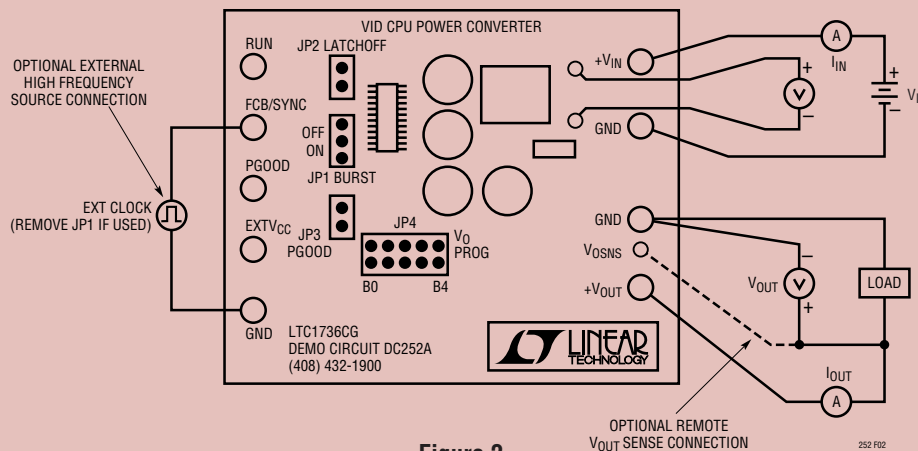

Figure 2
- Refer to Figure 2 for proper connection of monitoring and measurement equipment.
When trying to measure voltage regulation, remember that all measurements must be taken at the point of regulation. This point is where the LTC1736's control loop looks for the information to keep the output voltage constant. In this demonstration board it is located between Pin 5 (SGND) of the LTC1736 and the sense side of  $R_{S1}$ . This point corresponds to the  $V_{OSNS}$  terminal of the board. Output voltage test leads should be attached directly to this terminal. The load should be placed across the  $V_{OUT}$  (E7) and GND (E8) terminals. Measurements *should not* be taken at the end of test leads at the load; refer to Figure 2 for the proper monitoring equipment configuration.